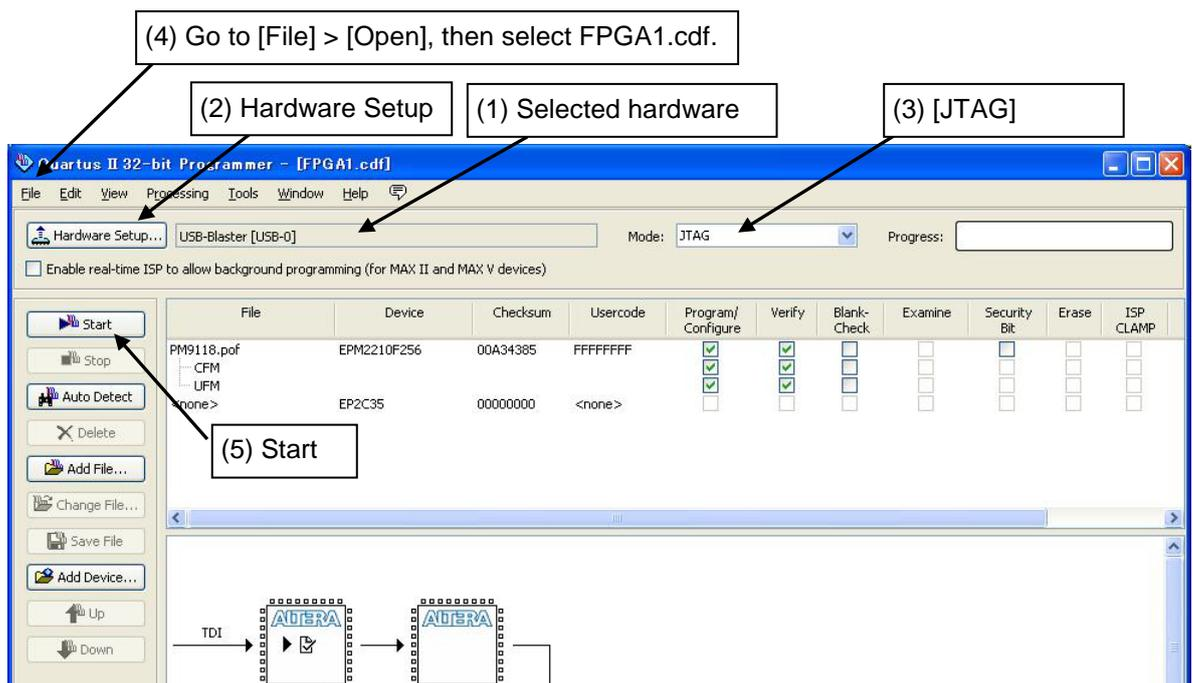

Fig. 18 CPLD Setting window
5. Check that ByteBlaster II (or USB Blaster) is selected (Fig. 18. (1)).
If ByteBlaster II that is connected to PC is not selected, or "No Hardware" is displayed, click [Hardware Setup](Fig. 18. (2)) and select the connected ByteBlaster II (or USB Blaster).
6. Select [JTAG] under [Mode] (Fig. 18. (3)).
8. Go to [File] > [Open], then open FPGA1.cdf. (Fig. 18. (4)).
9. Click Quartus II Programmer [Start] to update (Fig. 18. (5)).